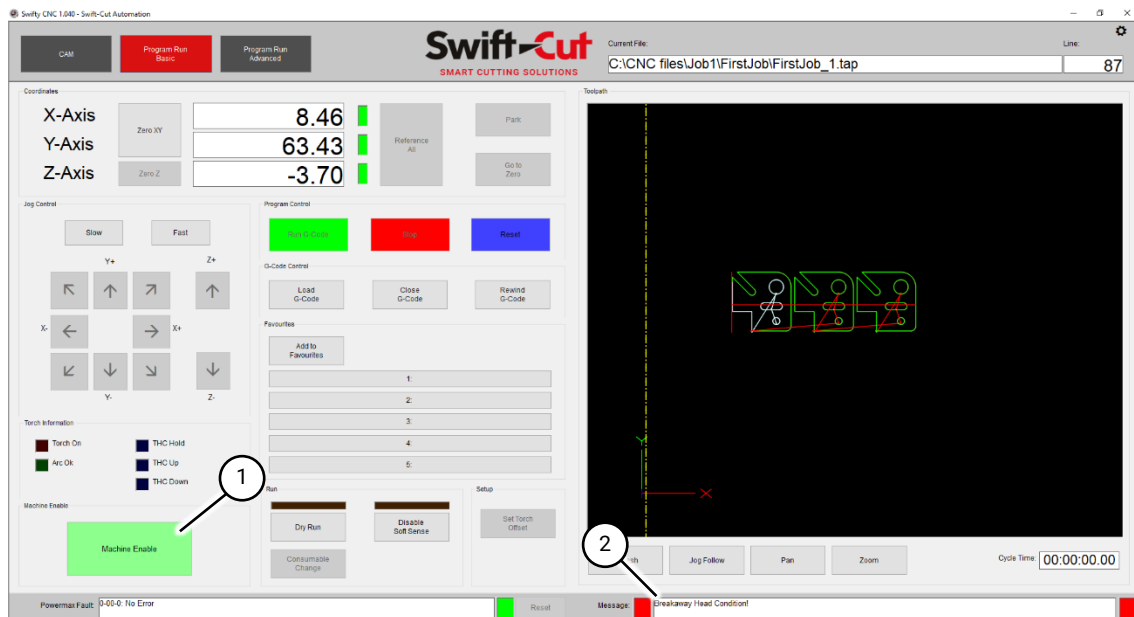

Fig 70 Breakaway head condition
1. If the torch has contacted the work piece and activated the breakaway head, the message "Breakaway Head Condition!" will be shown in the Message field at the bottom of the screen (Fig 70 (2)). To clear the breakaway head condition, proceed as follows:
- 1.1 Press the Machine Enable button (Fig 70 (1)).